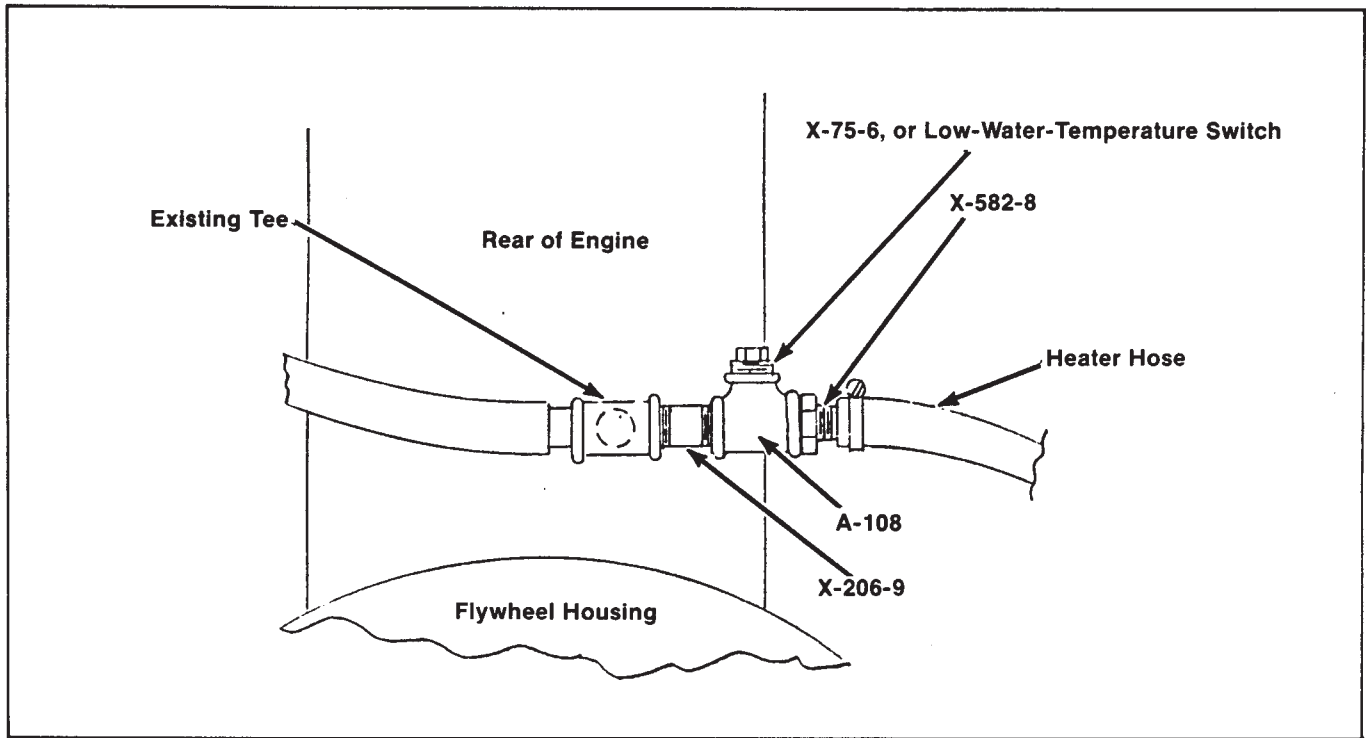

Figure 2.
5. The new block heater hose connection is to be installed at the rear of the engine block, above the flywheel housing. See Figure 2. Remove pipe plug from existing tee. Install X-206-9 pipe nipple, A-108 tee, and X-582-8 hose connector, with pipe thread sealer, as shown.